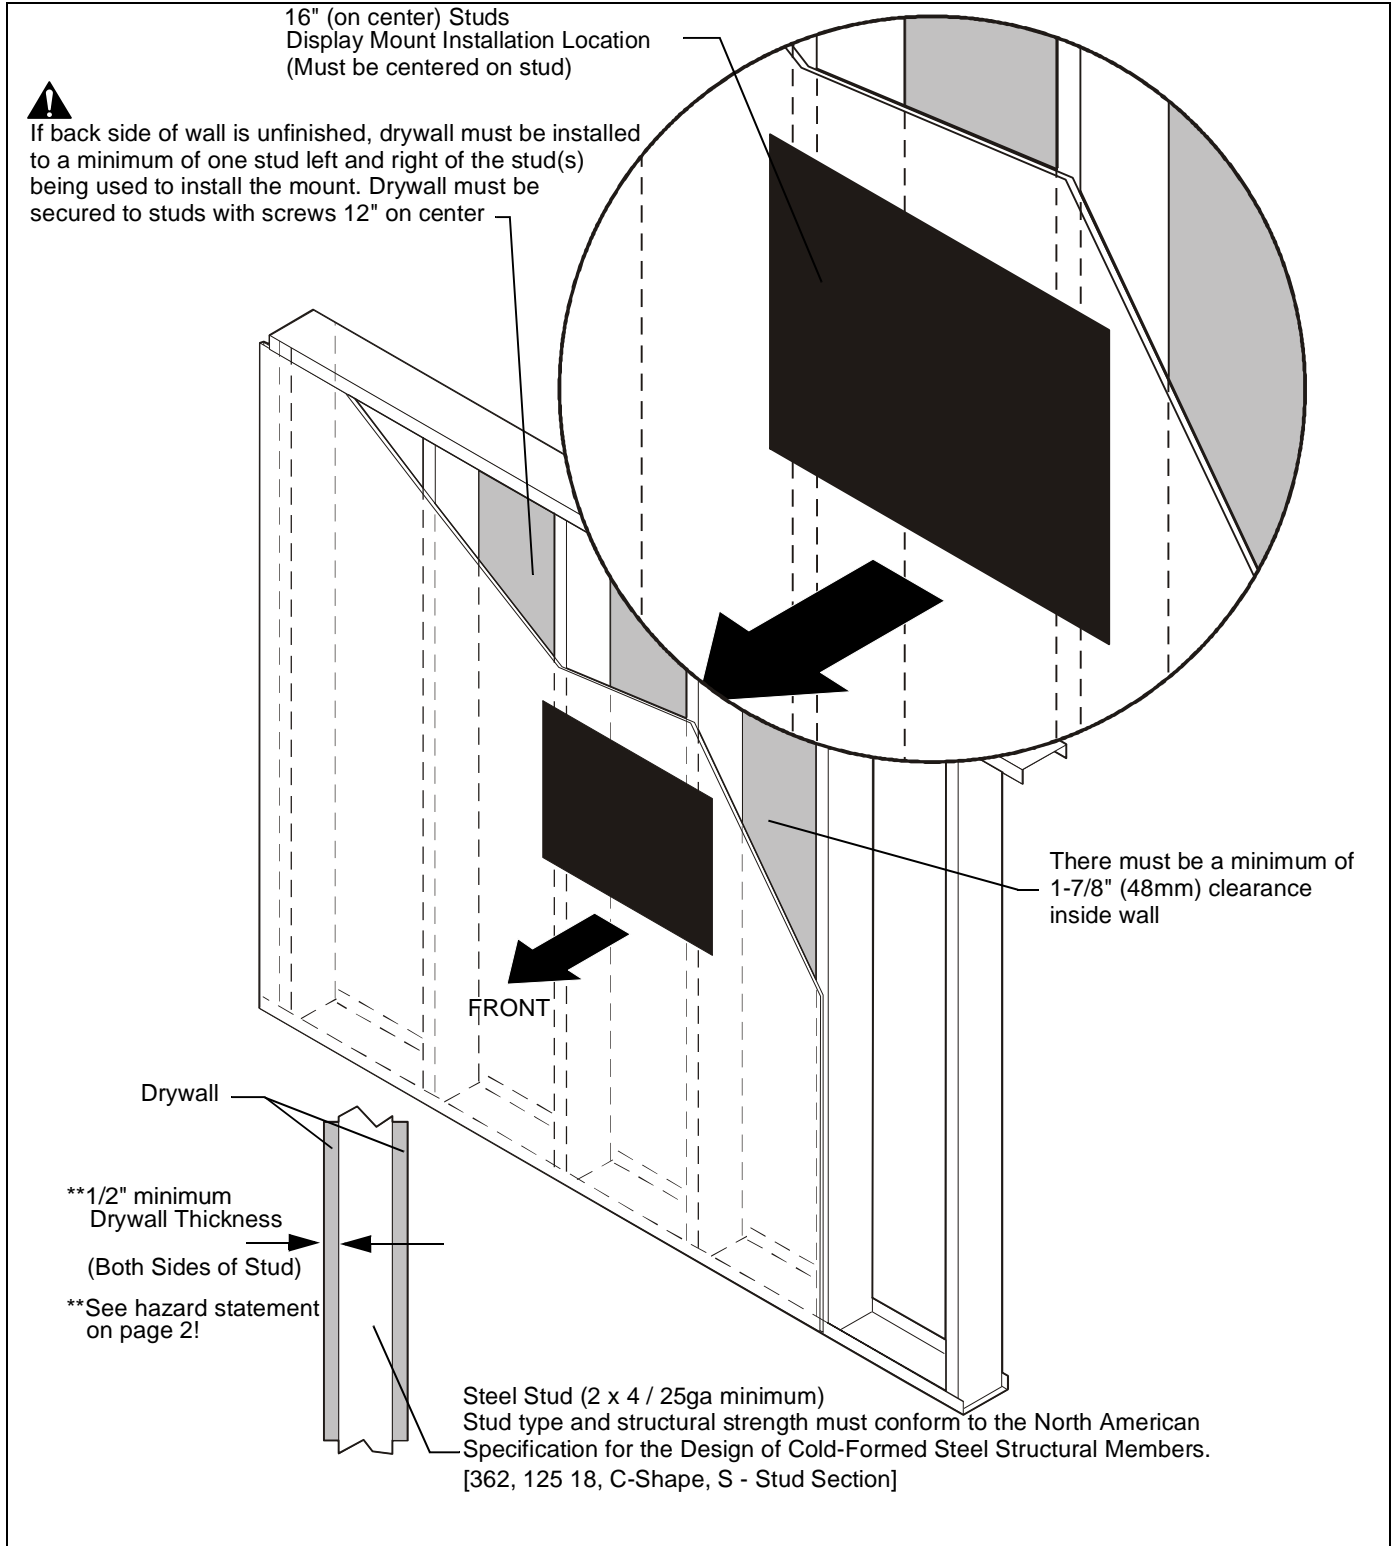

Figure 1
**WARNING:** IMPROPER INSTALLATION CAN LEAD TO EQUIPMENT FALLING CAUSING SERIOUS PERSONAL INJURY OR DAMAGE TO EQUIPMENT! The figure below identifies the minimum requirements for installation of display mounts onto a steel stud structure. If the structure or its components do not meet these requirements contact the mount manufacturer for specific instructions before attempting installation. It should also be noted that no other equipment should be mounted to the same stud. (See Figure 1)